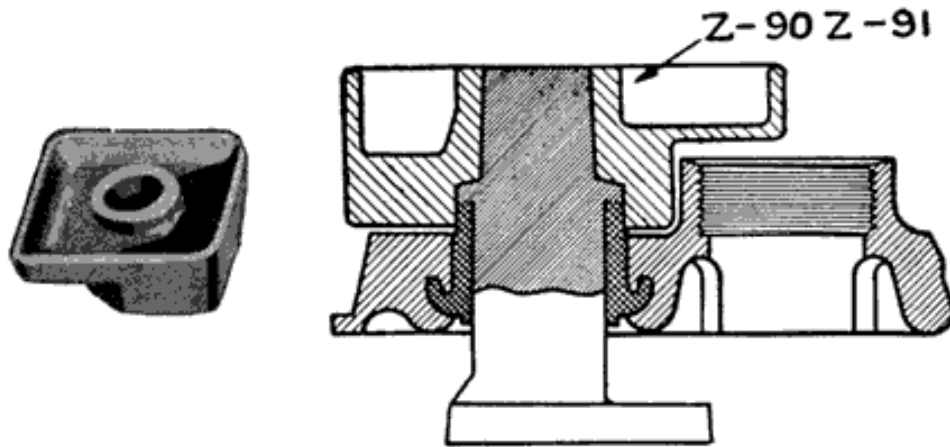

Fig. 285. Willard Burning Form Z-90, Z-91, and How it Is Used
11. If the terminal posts are made for clamp terminals, build up the posts by using Willard burning form Z-90, for the positive posts and Z-91 for the negative posts (Fig. 285).